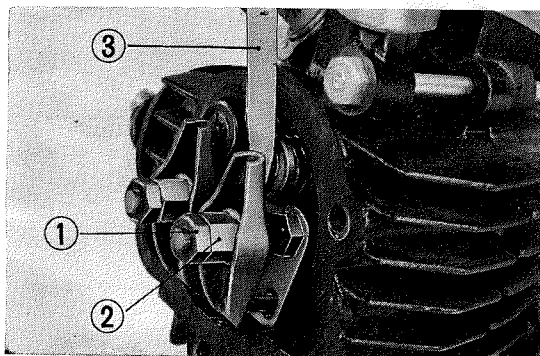

Fig. 2 Tappet adjustment
4. Check tappet clearances with a thickness gauge and if it is necessary to adjust, loosen the lock nut and adjust the tappet adjust screw. (Fig. 2)